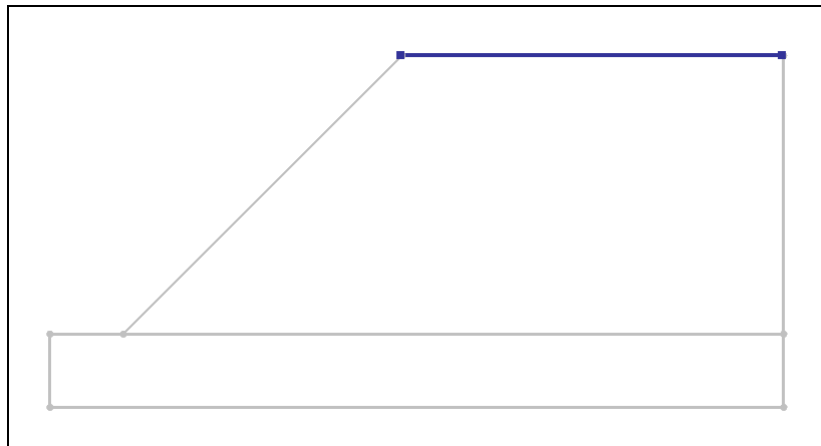

Figure 2. Selecting the distributed load arc.
9. Click on the two points representing the top of the sand embankment to connect them with an arc. This will create an arc representing a distributed load as shown below in Figure 2.